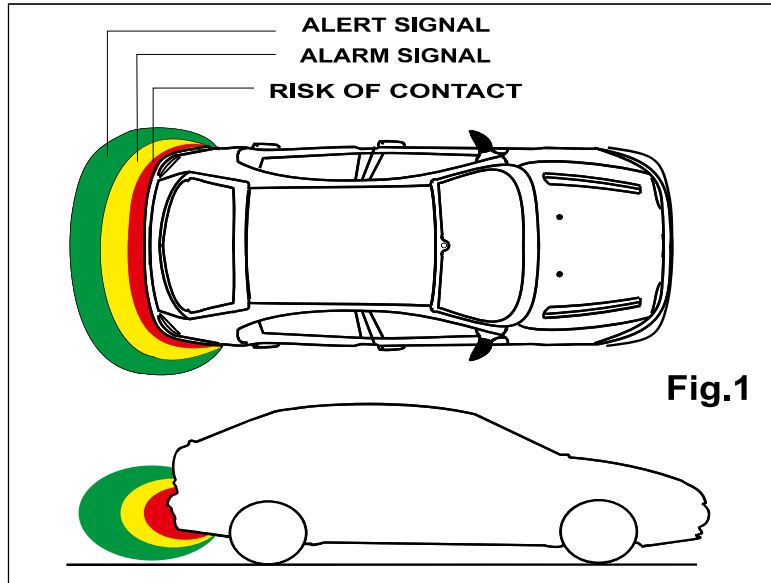

Fig.1
The activation of the device is obtained by the insertion of the back gear and confirmed by a signal of "OK". Once activated, the EPS-DUAL 4.0 generates around the bumper, on which is installed, a protection zone (Fig. 1).
**Note:-** The detection is depending on the size of the obstacle and while the max corresponds to the central zone in the lateral edges the distances of detection are less (see Fig. 1)